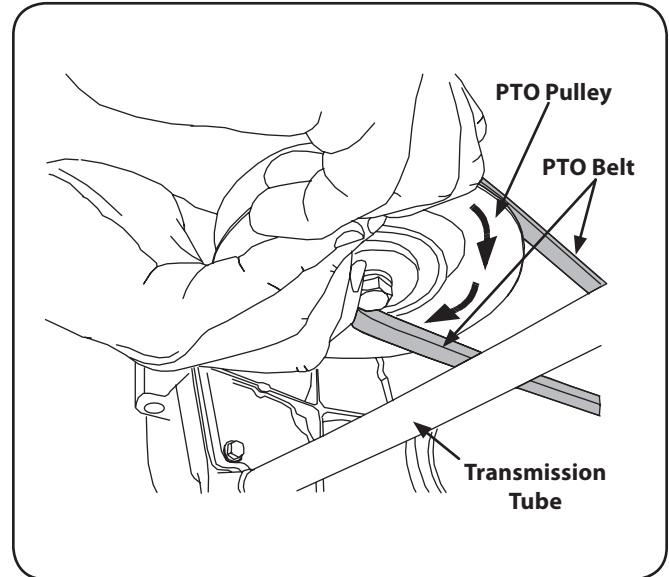

Figure 7-4
5. While still holding the belt downward, continue turning the PTO pulley until the belt rolls off the pulley. Refer to Figure 7-4.
11. Pull the right side of the belt rearward and place the narrow V side of the belt into the PTO pulley. See Figure 7-4.
12. While holding the belt and pulley together, rotate the pulley to the left (See Figure 7-4). Continue holding and rotating the pulley and belt until the belt is fully rolled into the PTO pulley.